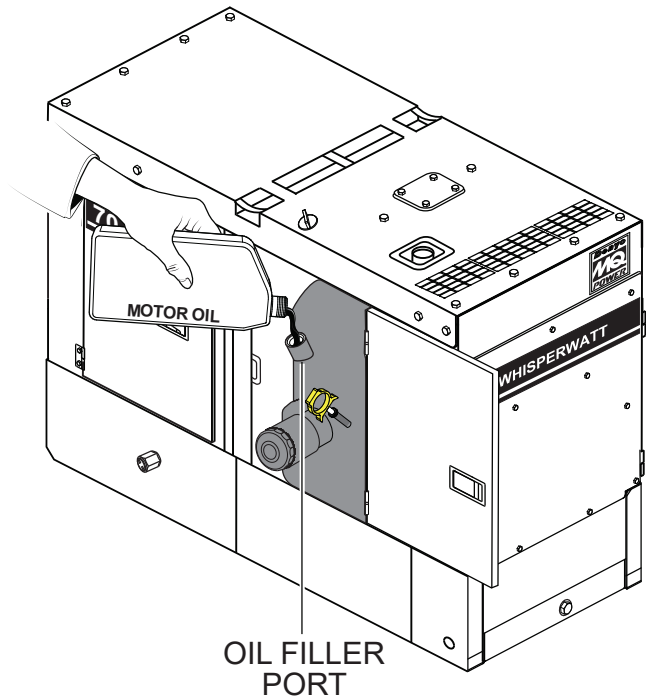

Figure 26. Engine Oil Filler Port
5. If the engine oil level is low (Figure 25C), remove the cap from the **oil filler port** (Figure 26) and fill to a safe operating level (max) as indicated by the dipstick (Figure 25A). Fill with the recommended oil type listed in Table 10. Maximum oil capacity is 3.6 gallons (13.5 liters).